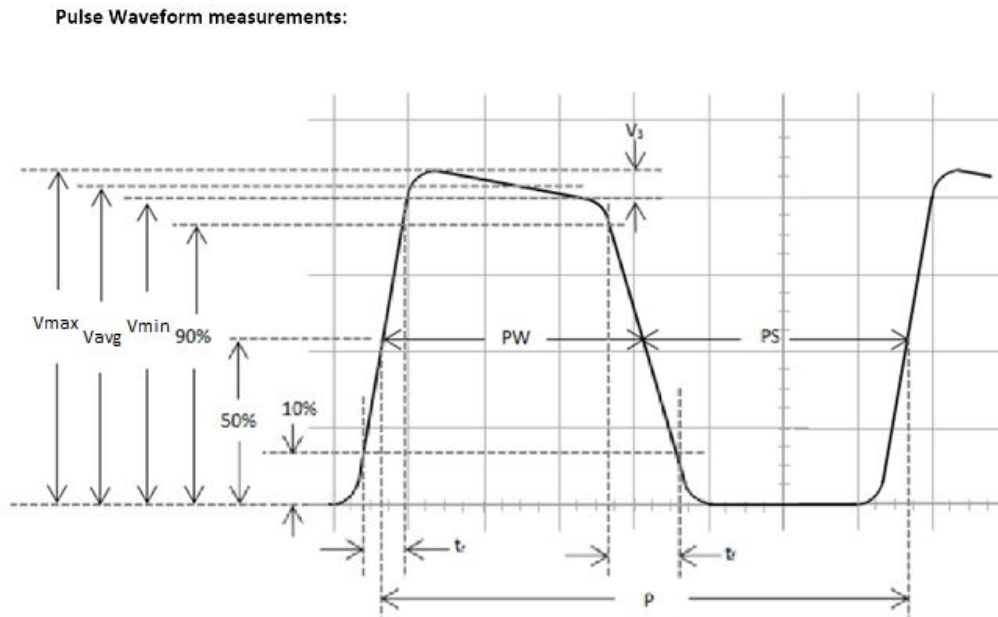

Figure 2.2: Pulse Waveform Measurements
- Draw or attach Figure 2.2 *Pulse Waveforms Measurements*.